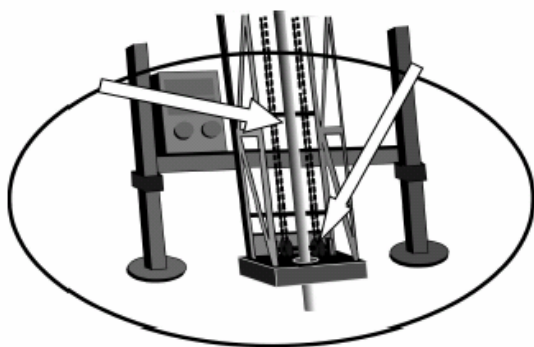

Figure 4. DANGER ZONE –
- ❖ **Danger Zones.** Diamonds North declares a **“Danger Zone”** around all hazardous areas of equipment and machinery at a drill site. Danger zones include all compressors and high pressure air hoses, sample discharge hoses, high pressure pumps, rotating drill rods, unguarded machinery and whenever drill rods are being handled or hoisted. (see Figures 4 and 5). All employees and visitors must be made aware of them. Discuss and point out all danger zones during the pre-program safety meeting at the drill and again whenever circumstances indicate a review is necessary. **NO ONE may enter a danger zone without a work-related reason.**
- ❖ The immediate area around rotating drill rods or augers is a “**Danger Zone**”, regardless of the drilling method (see Figure 4). Additional hazards (“drawing in”/ entanglement) within this danger zone include unguarded pull-down sprockets or sheaves.
Moving machine parts present a hazard that has the potential for entanglement, entrapment or crush injuries. Most “caught between” or “drawing-in” accidents involve drill rod handling, rotating drill rods, rod wrenches, rod clamp jaws, pull-down cables and sheaves or pull-down chains and sprockets (see Figure 4).